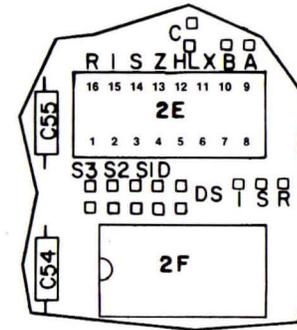

FIGURE 3-8. SIDE SELECT TERMINAL POSTS
1. Cut X shunt of DIP located at 2E (pins 6 to 11). See Figures 3-8 and 3-9.
1. Remove any jumper plugs at S3 and S2 terminal posts. See Figure 3-8.